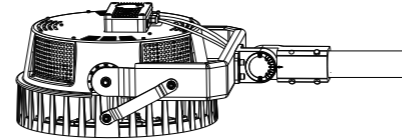

Figure 14
2. Loosen the fixing bolts and adjusting bolts, align the fixture to required angle. Tighten adjusting bolt and fixing bolts after the angle is confirmed. (Figure 14)